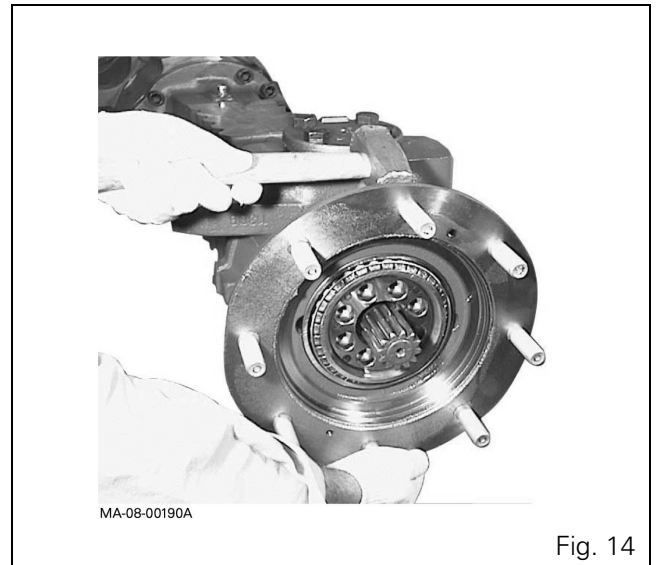

Fig. 14
- 14.** Remove the wheel hub using levers and a hammer to facilitate the operation (Fig. 14).
- 15.** Place the wheel hub on a level surface and extract the sealing ring (A) with a lever.